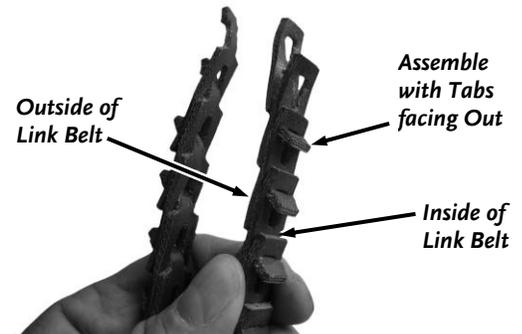

Figure 19
- Turn the Belt inside out so the inside Tabs are facing out (**Figure 19**).